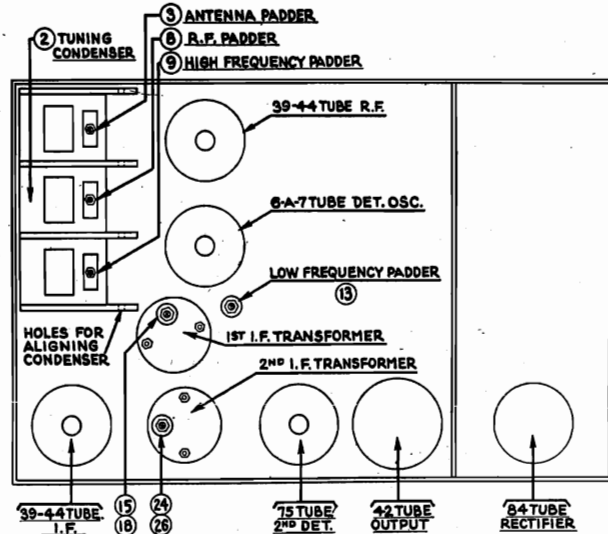

FIG. 5. MODEL 10—I. F. 260 K. C.
Remove the speaker lid from the Receiver and disconnect the antenna lead from the Receiver. Remove the grid cap from the 6A7 tube. (For location see Fig. 5.)
Set up the signal generator and adjust it to exactly 260 K. C. Connect signal generator lead to the grid cap of the 6A7 tube. (See Fig. 5.) The output meter must be connected by means of an adapter to the small prong of the speaker plug and to the chassis.
The condensers 24 and 26 are adjusted first (Fig. 5). Turn the adjusting screw all the way in. A metal screw driver can be used for this. Then, with generator attenuator set so there is approximately half-scale reading, adjust the nut with a fibre wrench for the maximum reading on the output meter.
H. F. There are four holes in line, one in each of the sections of the tuning condenser housing. (See Fig. 5.) Place a nail of the size that fits snugly through the holes and then turn the condenser plates out of mesh until they strike against the nail.